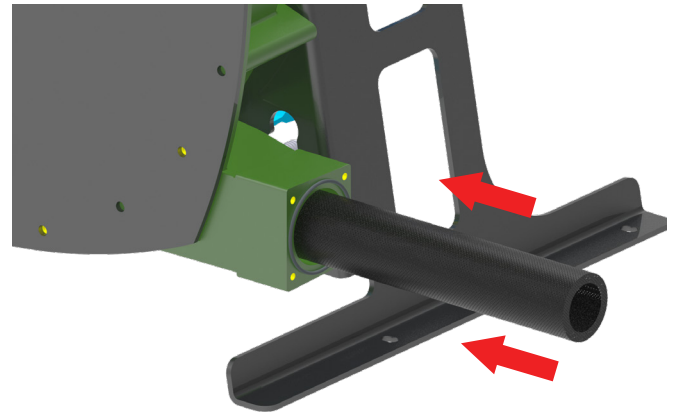

Figure 8. - Installing the hose
2. Insert the hose into the suction port (lower port as per Figure 8. - Installing the hose)